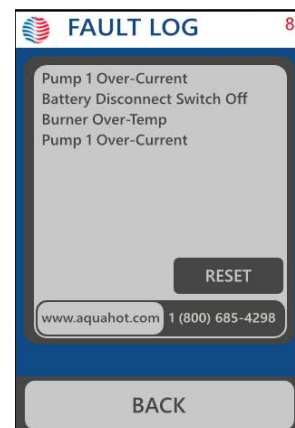

Figure 89
- Locate the high-limit thermostats (3) within the Aqua-Hot. Test these thermostats for functionality, and replace them if necessary. Reference page 23.
- Make sure there are no faults displayed on the LCD screen. Reference Figure 89.